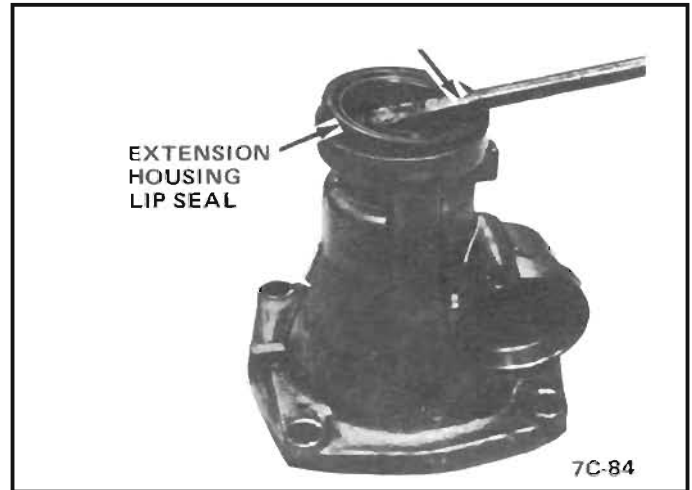

Figure 18 Extension Housing Lip Seal Removal
8. Remove the extension housing lip seal using a screwdriver. *See Figure 18.*